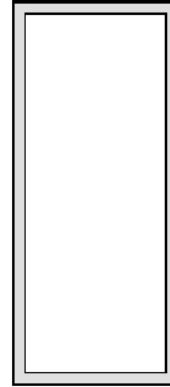

Figure 18. Solder Paste Application on Pins
4. The aperture opening for the signal pads should be between 50–80% of the QFN pad area as shown in Figure 18.